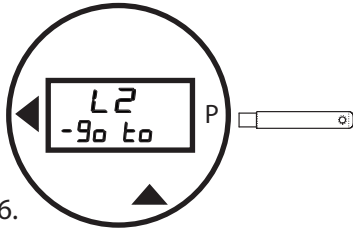

Figure 26.
- a. Pass the wand over the **P** until you reach the **L2 - Go To** selection (Figure 26).